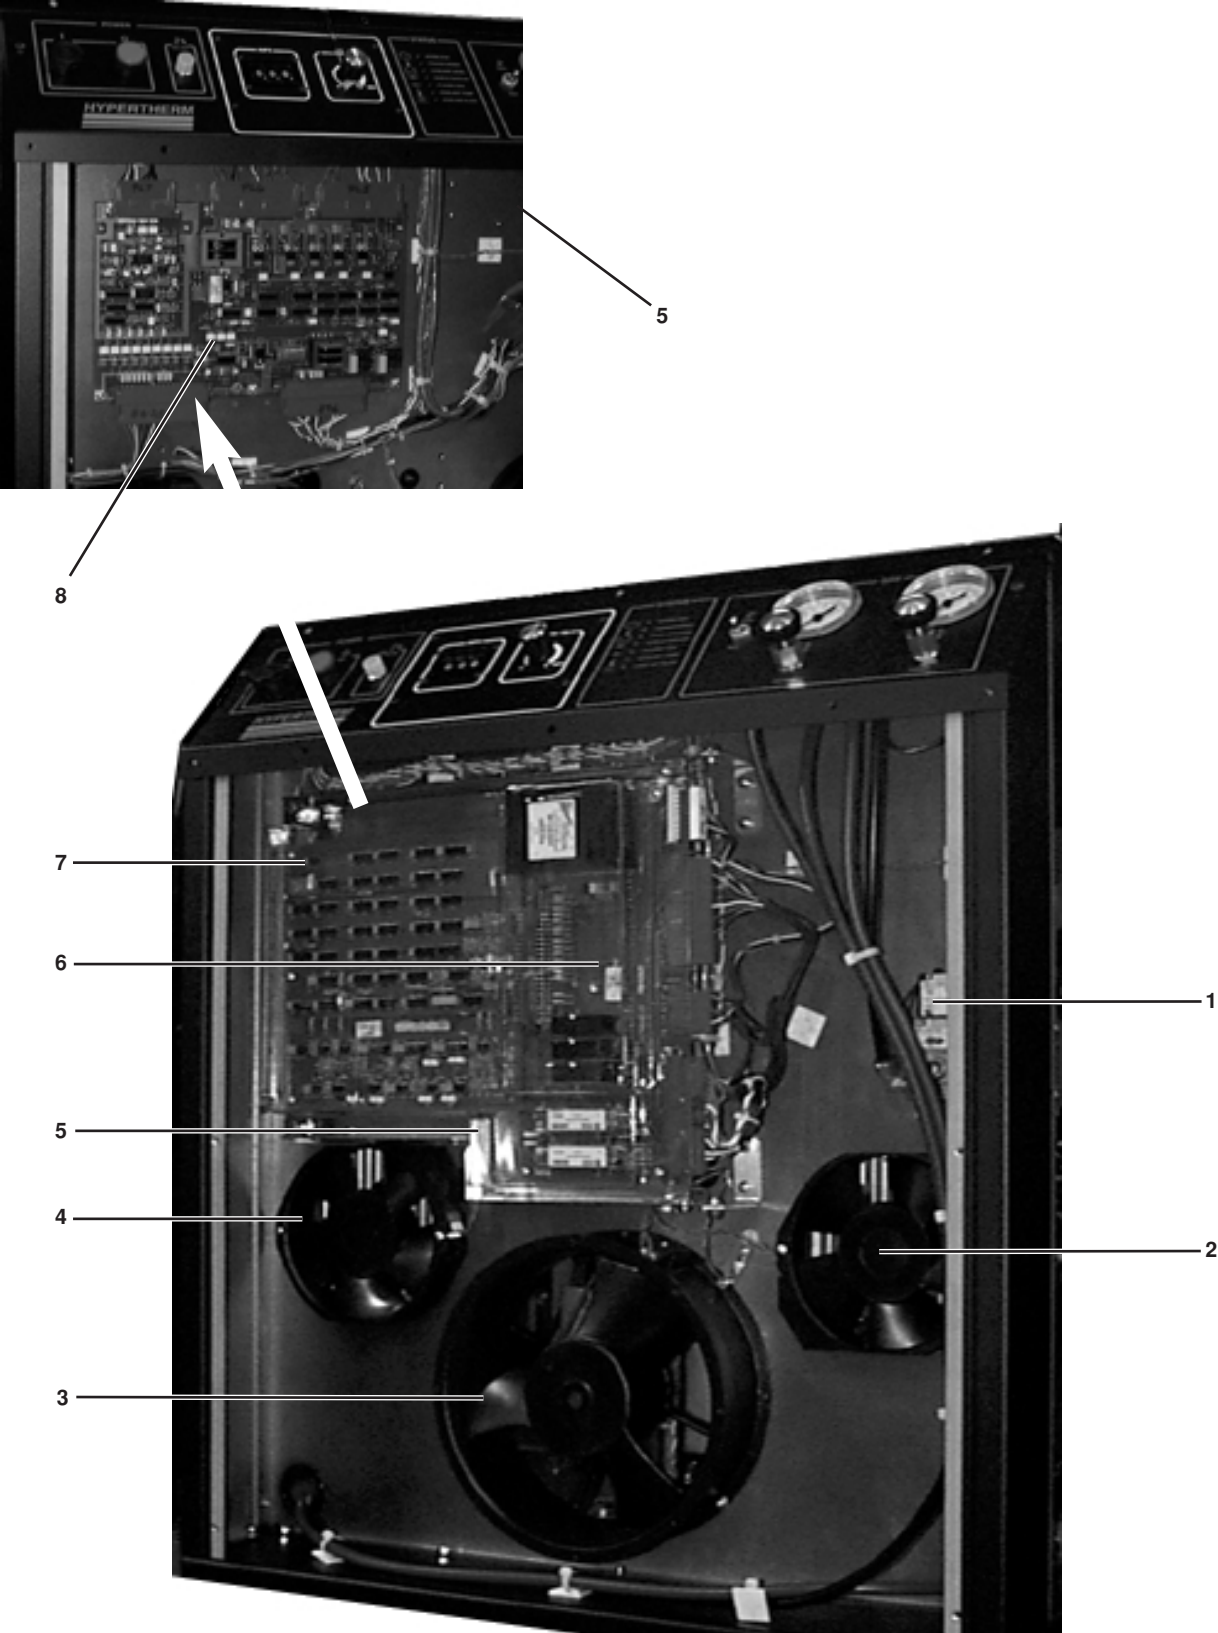

Figure 6-2 Power Supply – Front View
* Items not shown in Figure 6-2. Refer to MAX200 Service Manual IM-162 (801620), Section 3, *Routine Maintenance* to check and replace filter.